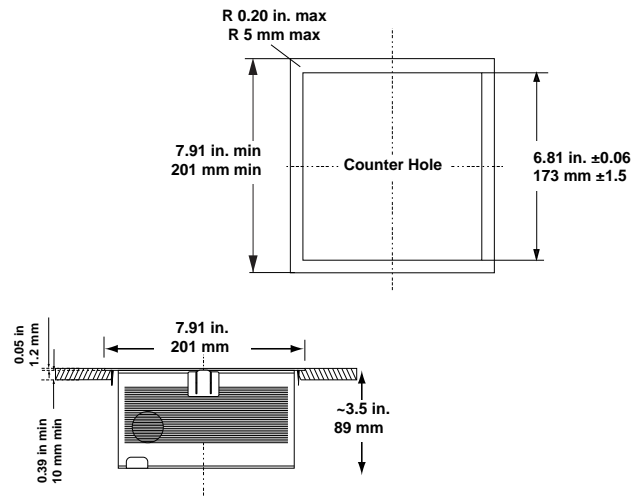

Figure 1-10 LS7808 Option B
1. On the counter top, measure two concentric squares: an inside square of 6.81 in. (173 mm) and an outside square of 7.91 in. (201 mm) (Figure 1-10).